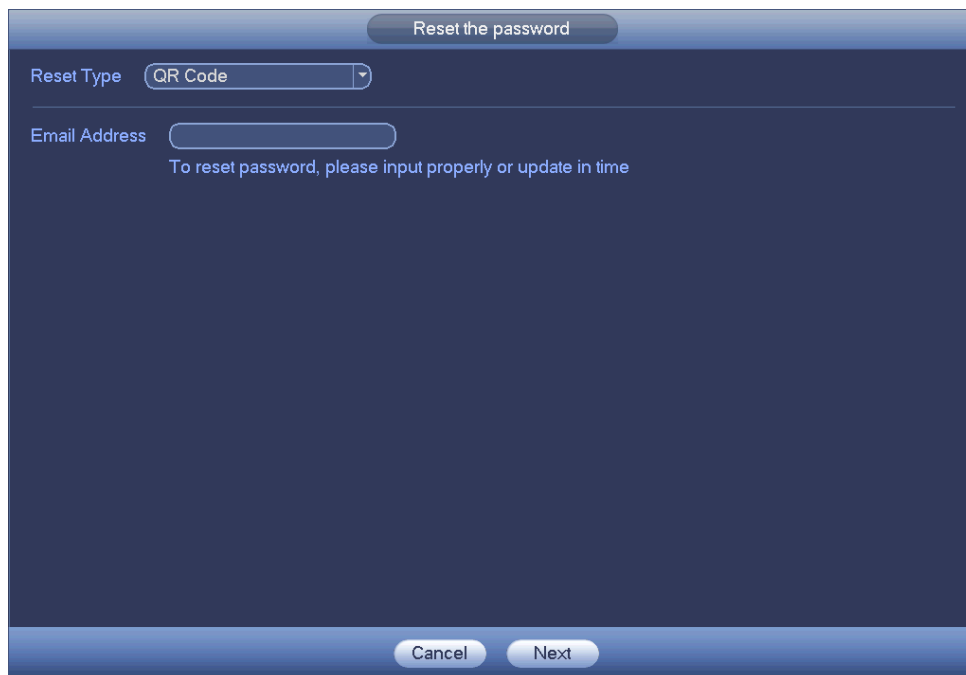

Figure 2-6
- If you have input email when you are initializing the device, device goes to Figure 2-6.